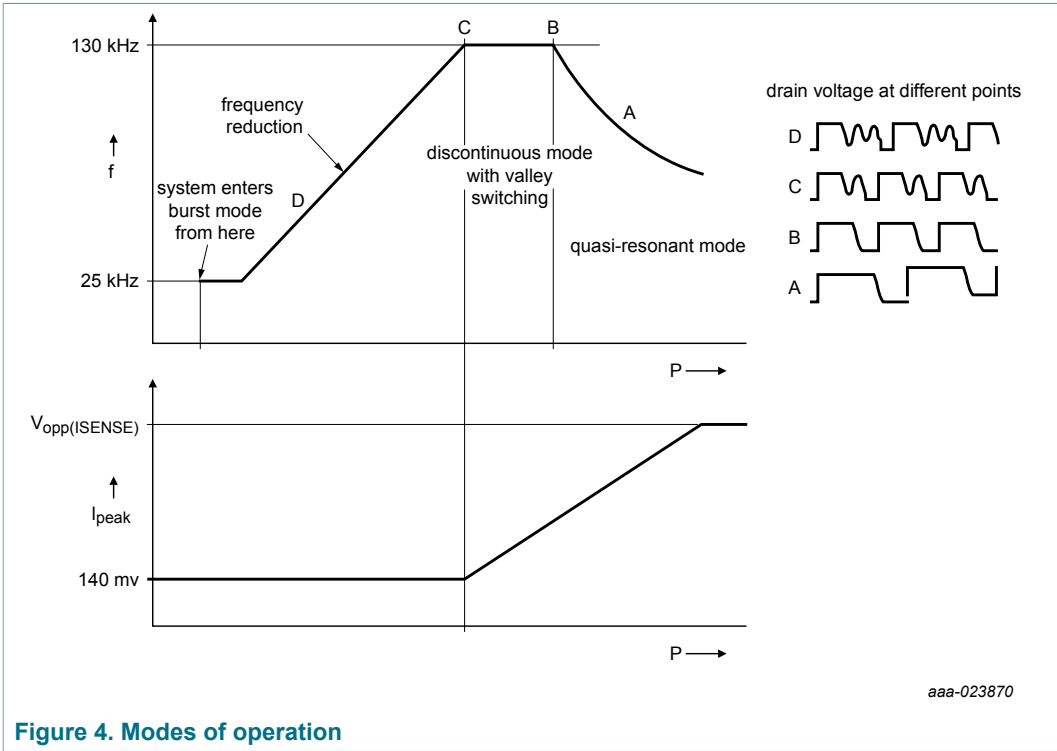

Figure 4. Modes of operation
The TEA19363LT operates primarily in fixed frequency DCM mode. At low powers, it enters burst mode. At high powers, it can operate in Quasi-Resonance (QR) mode (see Figure 4). The auxiliary winding of the flyback transformer provides demagnetization information.